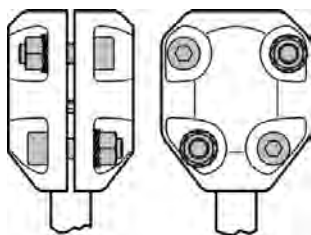

fig. 11
- Assemble the coupling by fitting the four screws, washers and nuts in correct position and turn only for the first threads, in order to assure a large play to both the coupling sides. **Alternately fasten the screws and nuts in the same way on both sides of the coupling (fig. 11).**